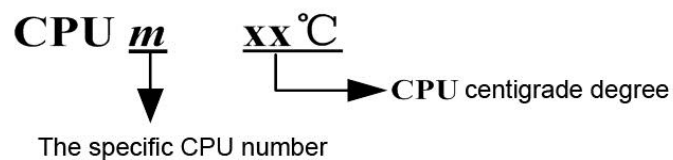

Figure 3-5 Display mode of CPU temperature status
- To enter CPU TEMP STATUS L2 sub-menu, LCD module displays CPU1 xx°C (xx is CPU temperature. The following description indicates this meaning), shown as the figure 3-5. To press key  in turn, the CPU m xx°C will display in cycle (m=1, 2, ..., number of CPU supported by the mainboard). You should press key  on any phase of L2 sub-menu.